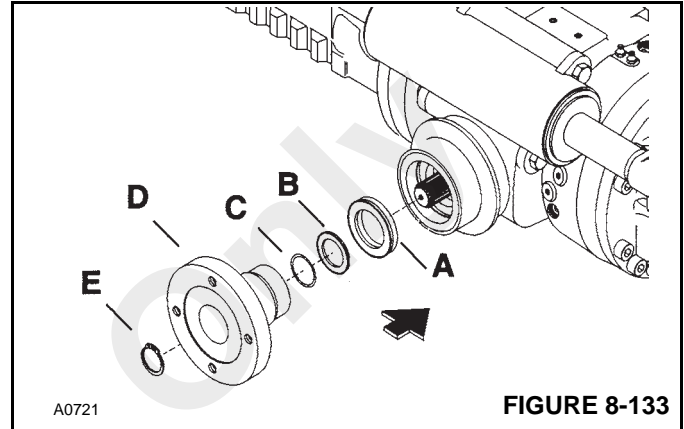

FIGURE 8-133
- Install seal ring (A, Figure 8-133) in the center housing with SPECIAL TOOL P/N 1901779 and a hammer.